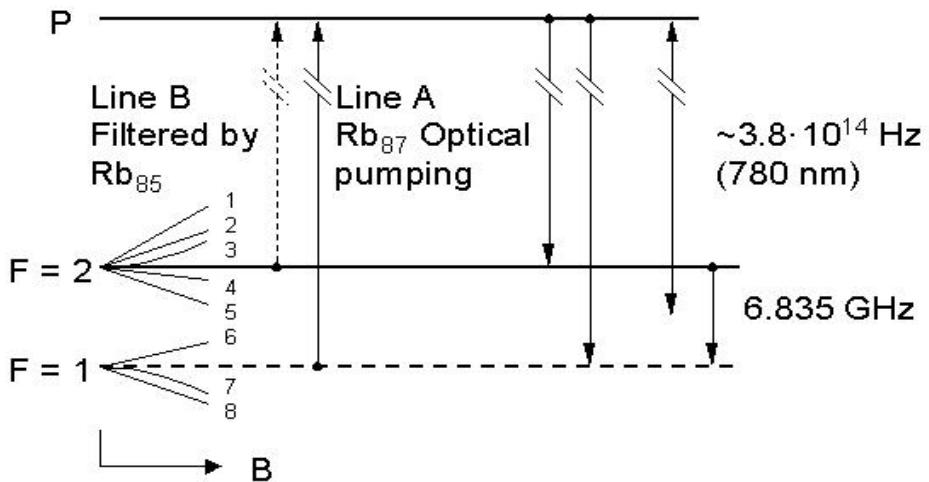

Figure 1: Energy levels and transitions in Rb87 atoms during LNRCLOK operation.
In order to detect the clock transition between these two levels, the atoms need to be manipulated in such a way that most of them occur in only one level. This is done by optical pumping via a higher lying state (P). Figure 1 visualizes the atomic energy levels and transitions involved in the optical pumping process.